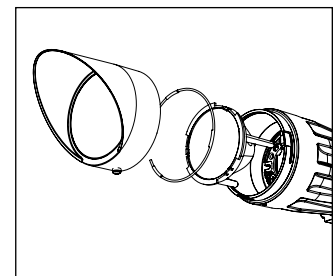

Figure 8
3. Remove retention clip on the housing that secures optic (Fig. 8). Carefully lift optic from housing (a small regular screwdriver may be needed).